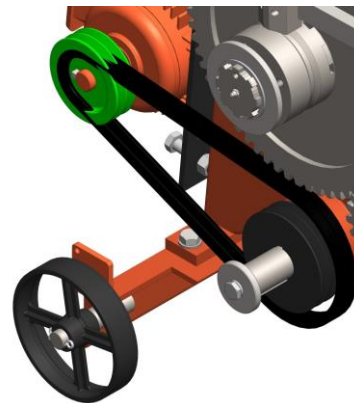

Figure8: Mounting the belts to pulleys
- Machine should be handled in conformance with the handling conditions. (Figure 8)